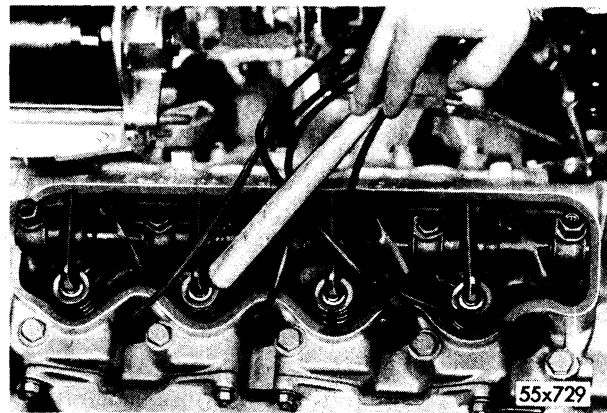

Fig. 83—Applying Side Pressure Against Valve Springs
- (1) Aeration of oil feed.
- (2) Excessively worn valve guides—Test by applying side thrust on valve spring, as in Figure 83.
- (3) Cocked valve springs—Test same as for worn guide.
- (4) Worn push rod or rocker arm—A close examination of these parts is simply performed. Pay close attention to rocker arm push rod socket.
- (5) Broken valve spring.
- (6) Tight rocker arm (sticky on shaft).
- (7) Bent push rod.
- (8) Tappet tight in bore.
- (9) Blocked tappet oil feed hole.
- (10) Worn tappet or cam lobe.